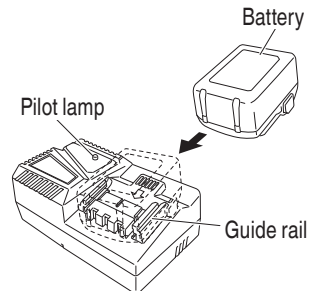

Fig. 6
2. Insert the battery to the battery charger. Firmly insert the battery into the battery charger as shown in Fig. 6.